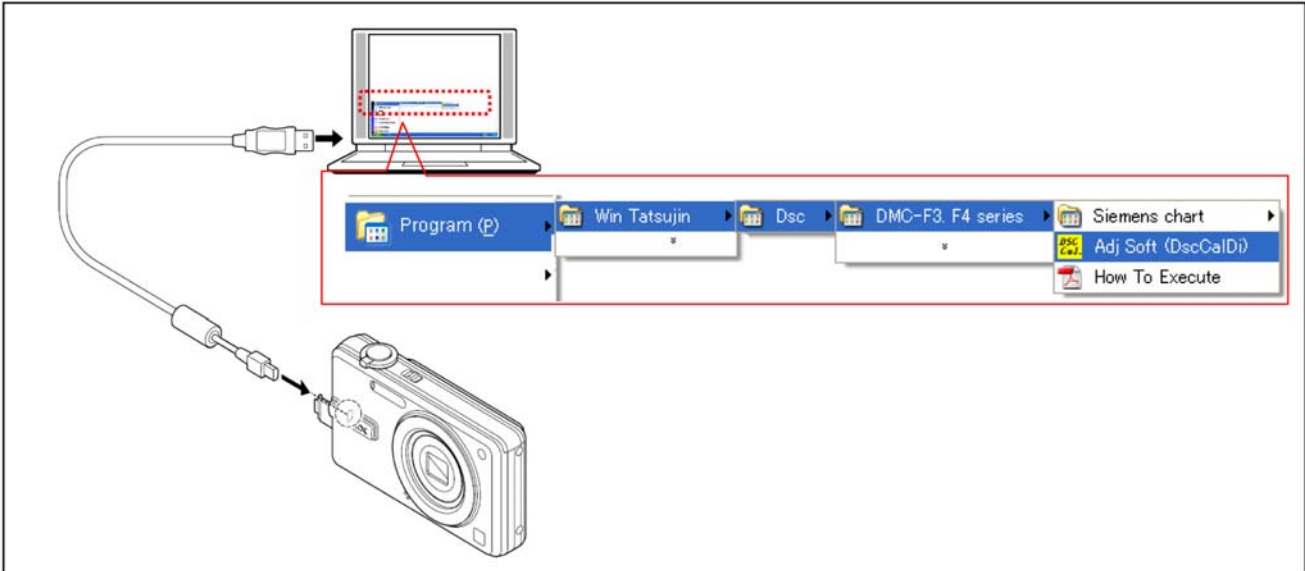

Fig.X1:Connection
1. Choose the “Adj Soft (DscCalDi)” and execute the adjustment software.(Refer to Fig.X1:Connection)